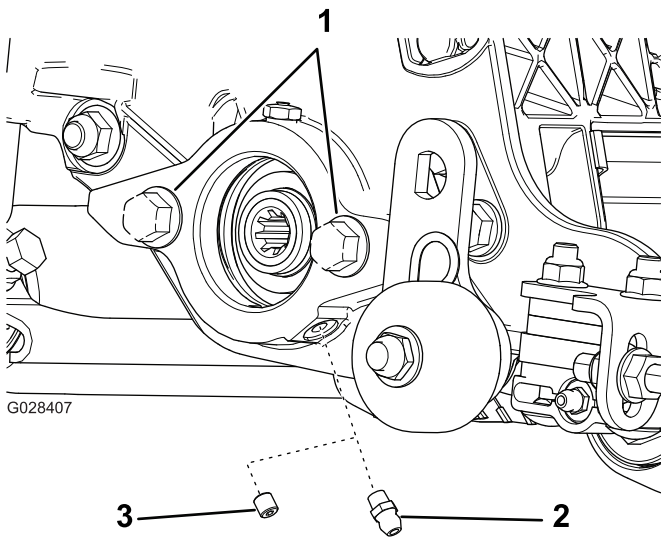

Figure 5
1. Remove and discard the setscrew on the reel-motor side-plate (Figure 5).
2. Install the straight grease fitting (Figure 5).
3. If there are no bolts on the reel-motor side-plate, install them (Figure 5).
The verticutters can be installed at any of the 5 locations on the traction unit. Figure 5 shows the orientation of the drive motor for each of the locations. For any of the locations requiring the motor to be mounted on the right end of the verticutter, install a counterweight on the left end of the verticutter. For the locations requiring the motor to be mounted on the left end, install a counterweight on the right end of the verticutter.